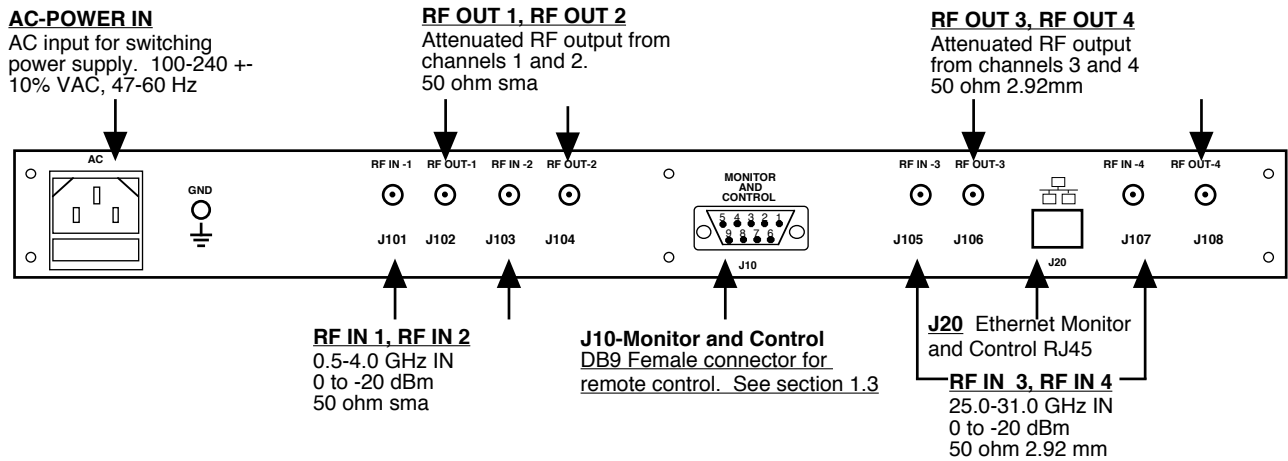

FIGURE 2.1 1586-04-0431 Rear Panel I/O's
2.2 Rear Panel Input/Output Signals - Figure 2.1 shows the input and output connectors on the rear panel.
- 1.) Connect 0 to -20 dBm signal(s) to any or all of the four RF Attenuator Inputs (Figure 2.1).
- 2.) Connect the desired RF Attenuator Outputs to the external equipment (Figure 2.1).